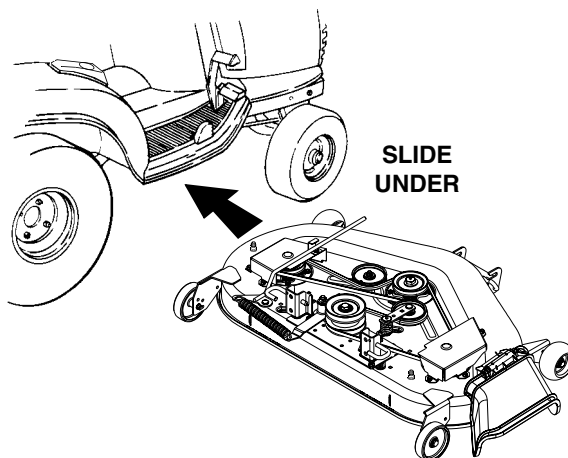

Figure 42
2. Refer to Figure 42 and position the deck on the right side of the tractor with the front of the deck facing toward the front of the tractor. Raise the tractor implement lift handle to its highest setting and slide the deck under the tractor.